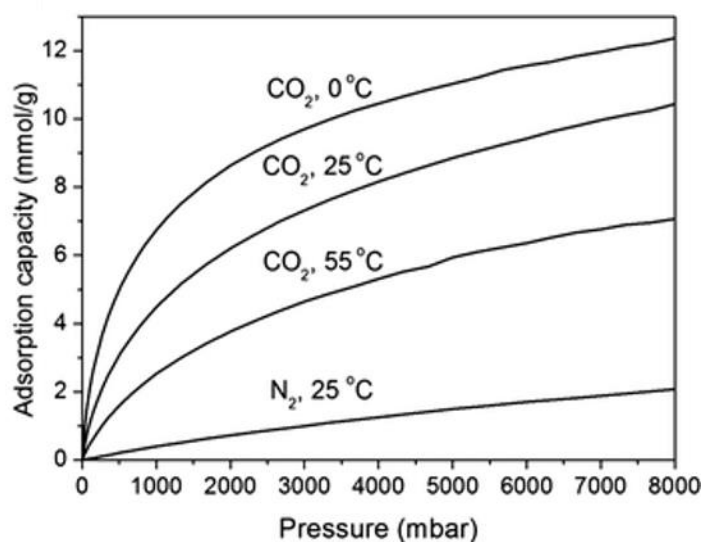

Fig. 1.2. CO₂ adsorption isotherms at 0 °C, 25 °C and 55 °C and N₂ adsorption isotherm at 25 °C for the polymer sample.
- (c) The N₂ and CO₂ adsorption isotherms at 298 K for the polymer sample are shown in Figure 1.2. Following what is called the Ideal Adsorption Solution Theory, one can define the ideal selectivity as being the ratio between the adsorption capacity for a given species to the adsorption capacity for another species. (i) Estimate the CO₂ adsorption capacity and N₂ adsorption capacity of the polymer sample at 298 K and 1 bar [1.5 marks]. (ii) Estimate the selectivity of the polymer sample towards CO₂ under the same conditions [1.5 marks].